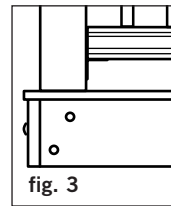

fig. 3
Step 3: Position, plumb with a level, and clamp the rail post on the interior face of the joist. Plumb again. The 4x4 railing post should be bolted to the inside of the joists using two 1/2"x6" galvanized carriage bolts. Corner posts use a third carriage bolt inserted through the adjacent joist (Figure 3).